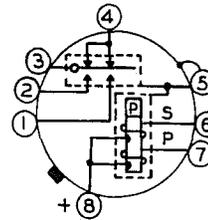

FIG. 39 - WINDING AND SPRING TERMINAL ARRANGEMENT AS VIEWED FROM THE BASE - 275 AND 276 TYPE RELAYS
2.56 The contact and winding terminals are numbered in accordance with the BSP figures referred to on the circuit requirement table and in Section A460.055.2. As viewed from the base of the socket, the terminals are numbered numerically clockwise from 1 to 8 starting at the key as shown in Fig. 39.